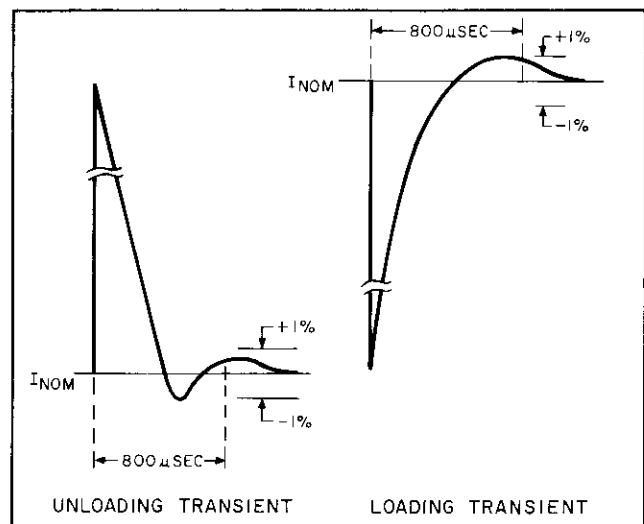

Figure 5-6. Load Transient Recovery Time, Waveforms
f. Adjust 25K potentiometer until a stable display is obtained on oscilloscope. Waveform should be within the tolerances shown in Figure 5-6. Output should return to within $\pm 10\text{mV}$ (Model 6177C) or $\pm 25\text{mV}$ (Model 6181C) of nominal value in less than 800 microseconds.